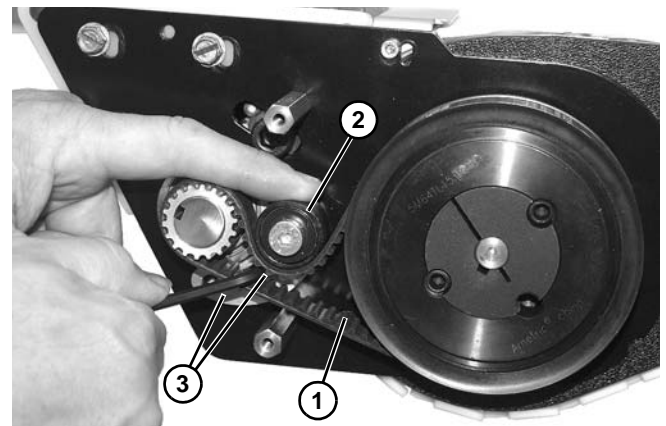

Figure 147
- On drive end, route and install belt (Figure 147, item 1) as shown. Press down on tensioner (Figure 147, item 2) and tighten two socket head screws (Figure 147, item 3)